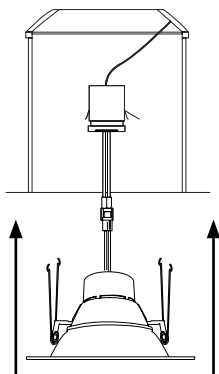

Figure 8
3. Use provided medium-base socket adapter and attach each end to housing and fixture. (Figure 8)